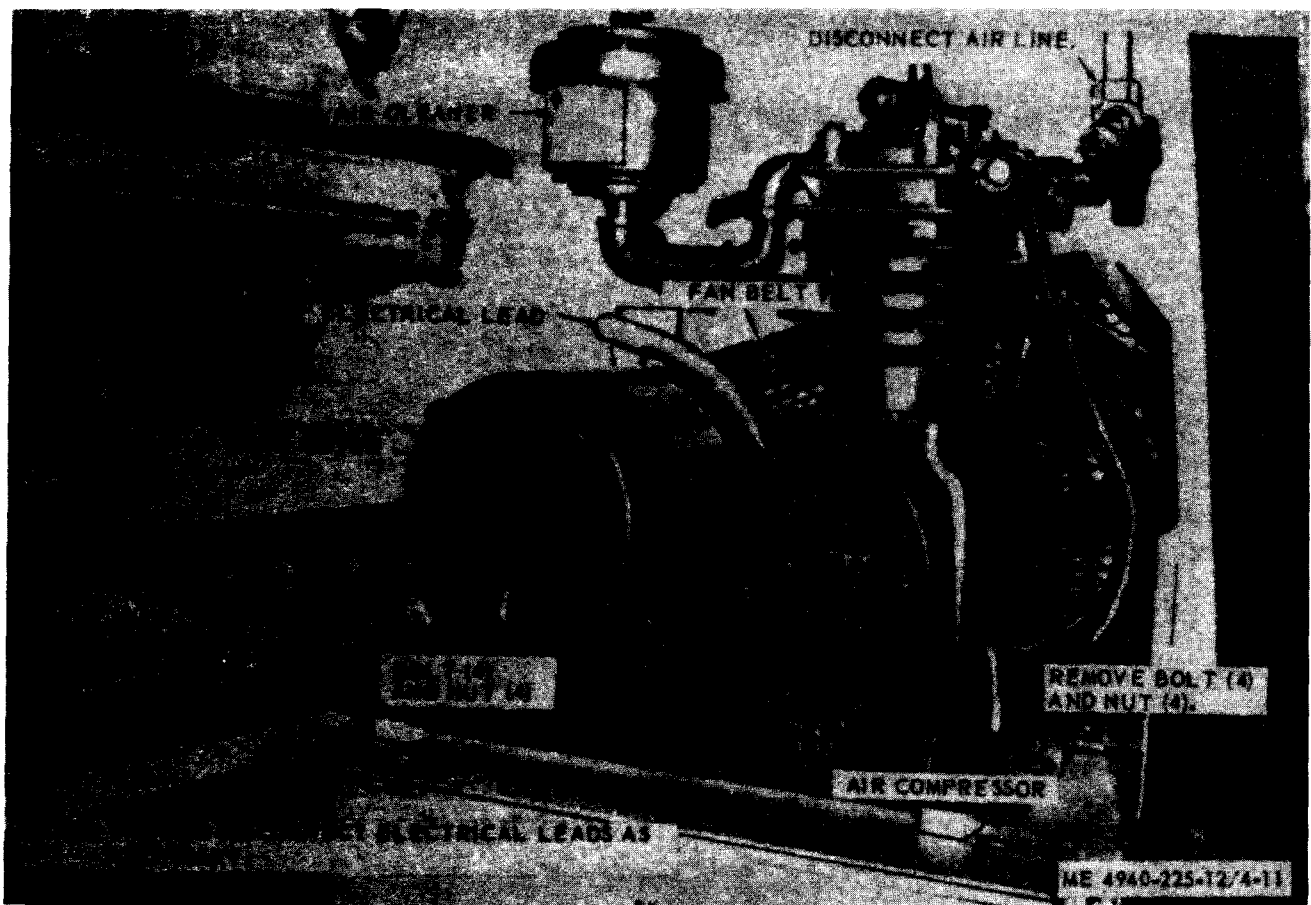

Figure 4-11. Air compressor and drive motor assembly, removal and installation.
a. *Removal.* Remove the air compressor and drive motor assembly as illustrated in figure 4-11.
b. *Installation.* Install the air compressor and drive motor assembly as illustrated in figure 4-11.
d. *Removal.* Tag and disconnect electrical lead (fig. 4-11). Remove bolt (4) and nut (4) and remove drive motor assembly.
b. *Installation.* Install the drive motor on the compressor base and secure with bolt (4) and nut (4).
c. *Belt Adjustment.* Loosen the drive motor holddown bolts (4) and slide the motor on the base to give the belt a 1/2 inch deflection between pulleys. Tighten the motor holddown bolts (4).